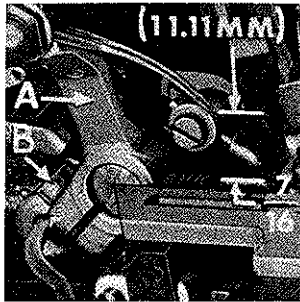

Fig. 3
With throat plate assembled in position needles should center in the front end of needle slot. When needles are at high position, the needle points should be set $7/16$ inch (11.11 mm) above the throat plate (Fig. 3) for Style 39500 RB. For Styles 39500 RC-045 and RC-060 the needle points should be set $15/32$ inch (11.91 mm) above the throat plate. To align needles or set the height above throat plate, move needle driving arm (A, Fig. 3) by loosening clamp screw (B). After needles have been set properly, tighten screw (B) and remove throat plate.